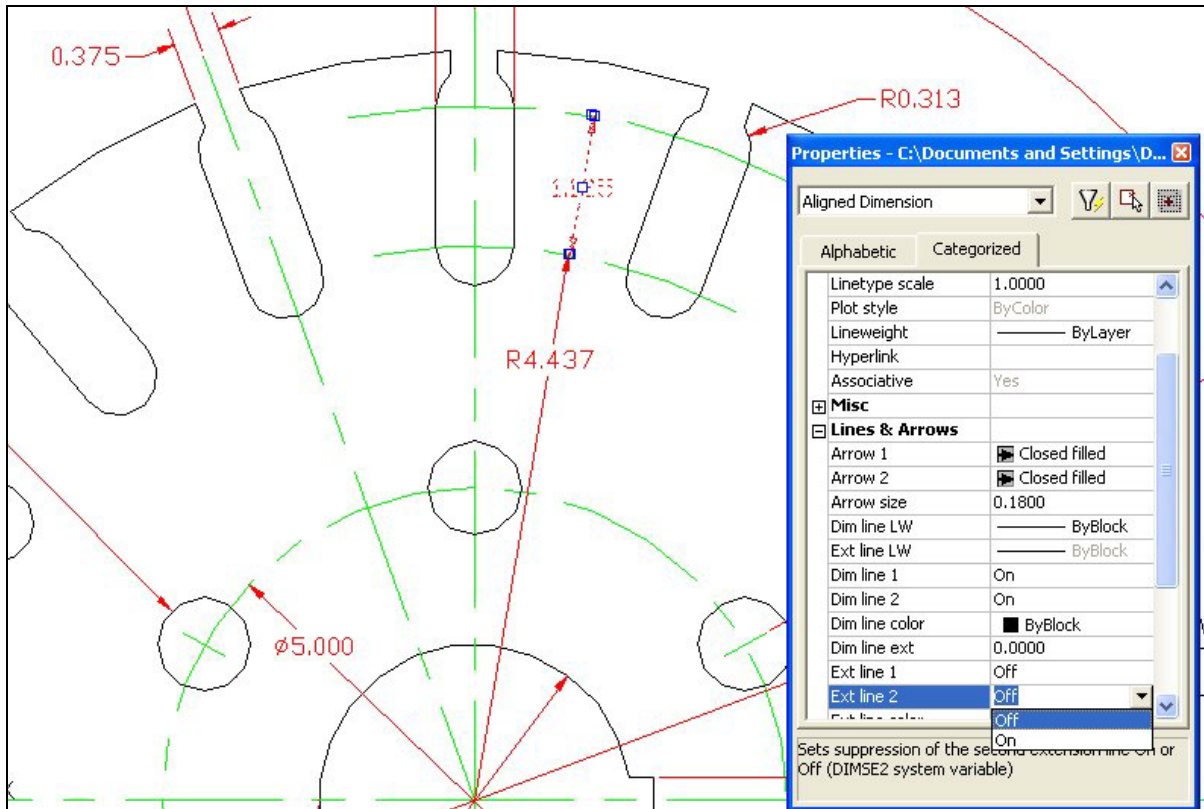

Figure 6.23 – Modifying Dimensions Using the Properties Tool
For the second modification, select the 1.125 aligned-dimension as shown in Figure 6.23 and the Properties window will change for that measurement. To remove the two small dimension extension lines that are at the points of the dimension arrows, double click on the On for Ext 1 and the text will change to OFF. Repeat the same process for the Ext 2 to change the text to OFF. Click on the Close button (X) which is in the upper right corner of the Properties window to close the window.